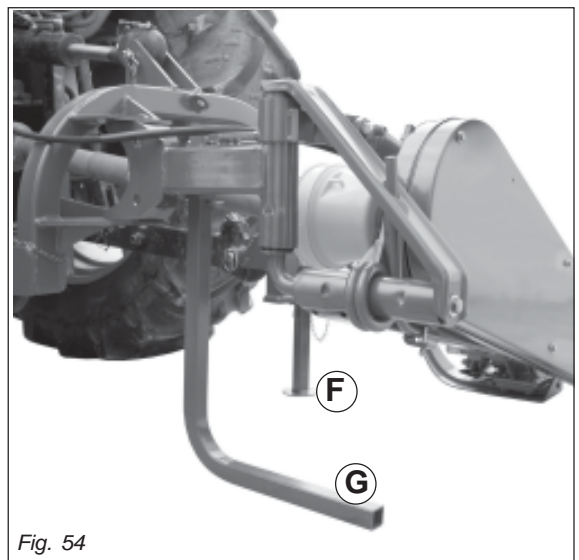

Fig. 54
- Lastly, store the implement in a dry place where it cannot be tampered with by unauthorized persons; the mowing machine must be set-up on flat and compact ground, supported by the relative supports (F and G, Fig. 54).